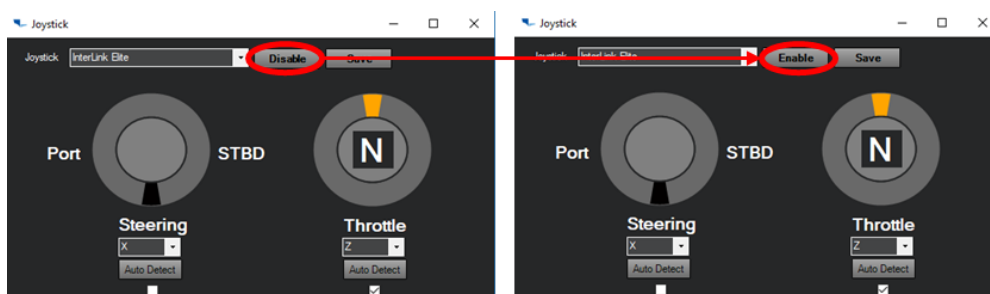

Fig. 14: Enabling the MAP USB Joystick from the MAP Planner
4. Enable the MAP USB Joystick, as instructed in Fig. 14: